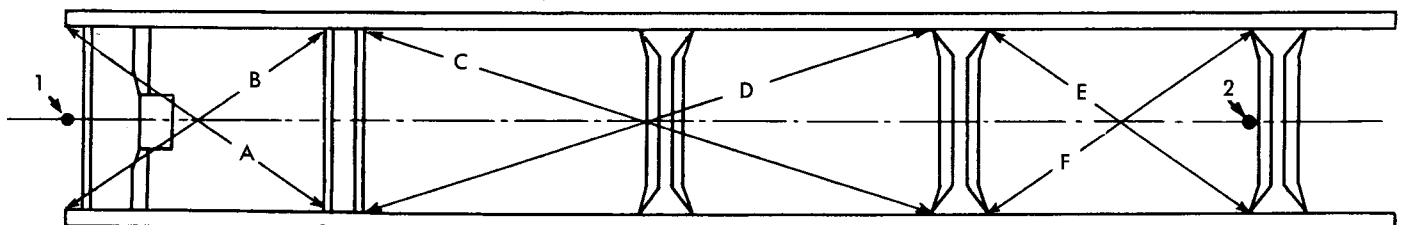

Fig. 2—Alignment Marking
(5) Take measurement across at front and rear marks and by dividing distances in half, indicate the two points on floor.
(6) Stretch a chalk-line between points 1 and 2 in Fig. 2 and snap string.
(7) Check to see how close centerline is to diagonal intersection points A, B, C, D, E and F in Fig. 2.
(8) Markings on floor will now give an indication of frame distortion in plain view.
(9) Any point on one siderail should be within 1/8 inch ahead or behind corresponding point on opposite side.
(10) Frame bow sideways should not exceed 1/8 inch per 100 inch length of frame.
(11) Overall width of frame should not vary more than 1/8 inch.
(12) Repeat steps (1) through (11) after straightening frame.